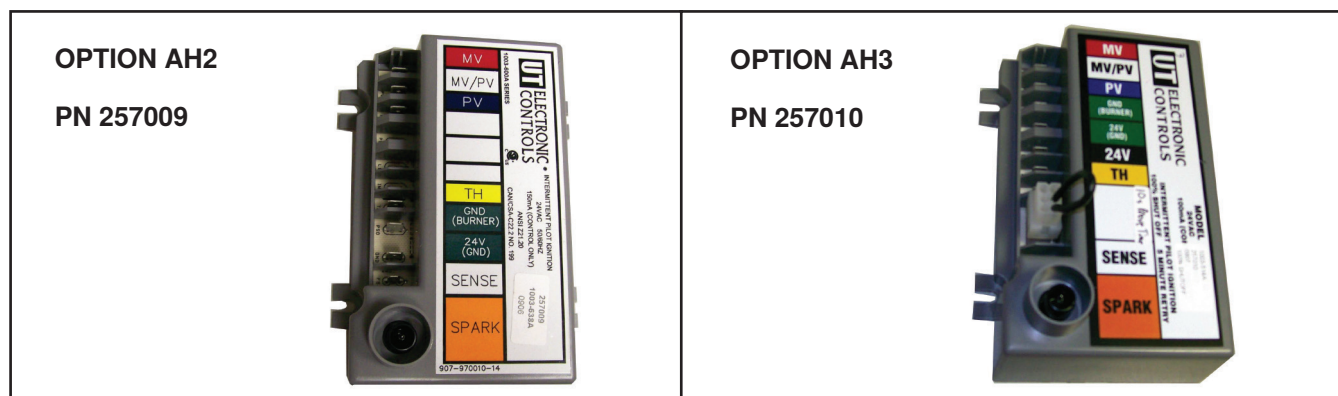

Figure 43. Obsolete Ignition Controllers
- c. Check the spark gap (see Figure 43), which should be maintained to 0.100 inch.
NOTE: If replacing an earlier model of ignition controller (see Figure 43), order a replacement kit (PN 257472 for a unit with recycling gas control option AH2 or PN 257473 for a unit with gas control with lockout option AH3). Option codes are listed on the unit wiring diagram.